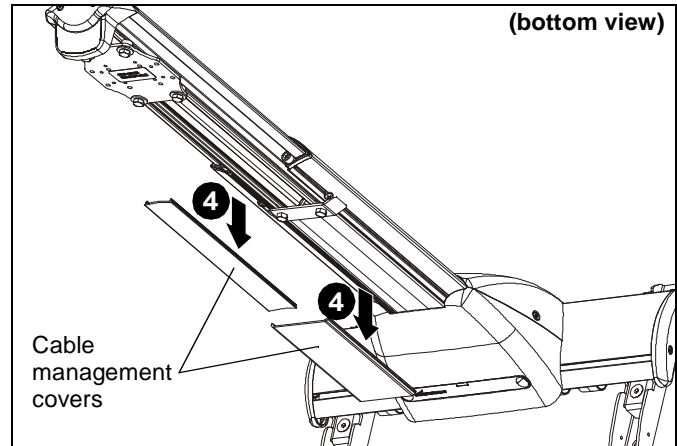

Figure 54
4. Remove cable management covers (if necessary) from short throw projector arm. (See Figure 54)